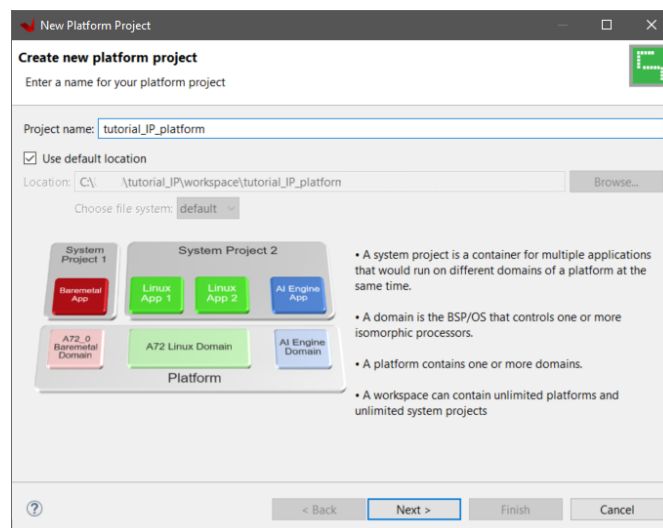

Figure 17
4. Type **tutorial_ip_platform** in the **Project Name** field (Figure 17)